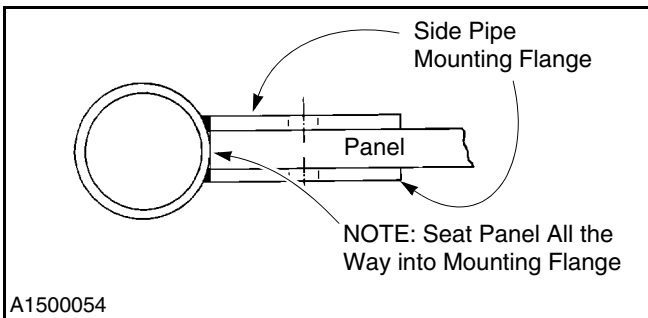

Figure 52
2. Insert the outside edge of the outer panel into the mounting flange of the adjoining side pipe. Seat the panel all the way into the flange. (See Figure 52.)